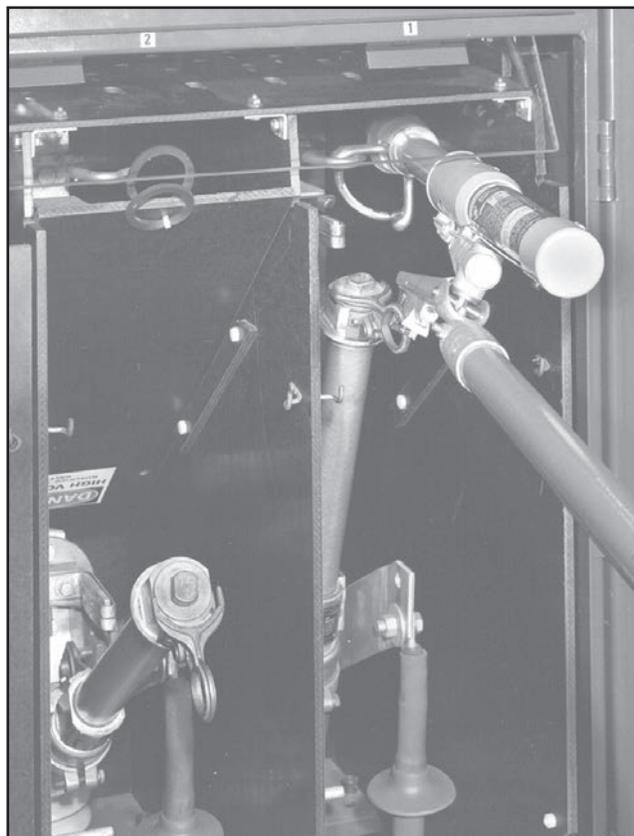

Figure 11. Detaching the Loadbuster tool from a power fuse.
- STEP 4.** To detach the Loadbuster tool after circuit interruption, roll the tool upward by turning the pole. See Figure 11. This will deflect the pull-ring latch to release the pull-ring hook from the pull-ring of the fuse unit or holder. Disengage the anchor from the attachment hook and withdraw the tool.